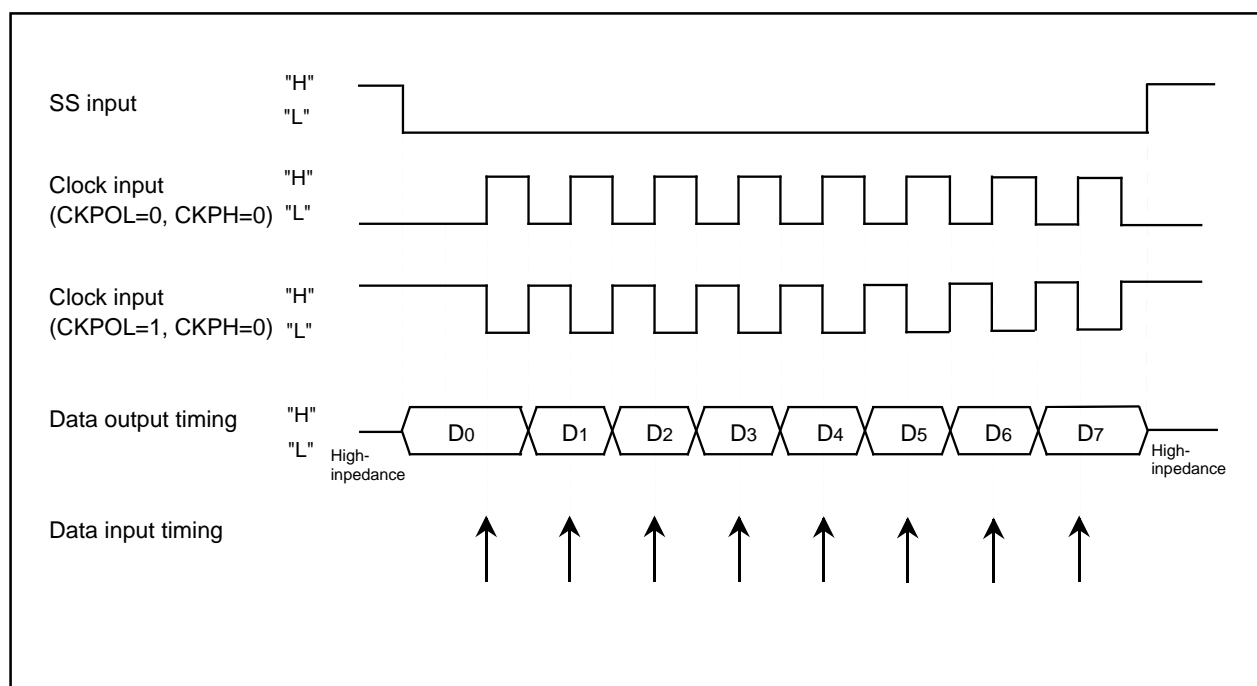

Figure 1.20.9. The transmission and reception timing ( $CKPH=1$ ) in slave mode (external clock)
- With "1" for bit 1 (CKPH) of UARTi special mode register 3 (addresses 032516 and 02F516 [*i* = 3 or 4]), when an SSi input pin is H level, output data is high impedance. When an SSi input pin is L level, the first data is output. After that, serial transmission is synchronized with the clock. Figure 1.20.9 shows the timing.